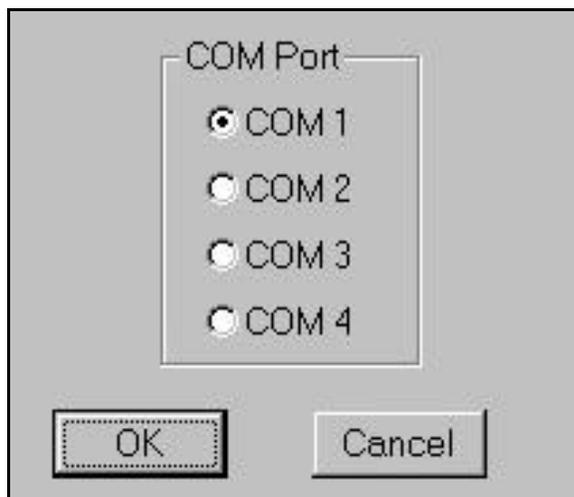

Figure 2.
2. Select Communications under the Settings pull-down menu, and the screen in figure 2 will be displayed.